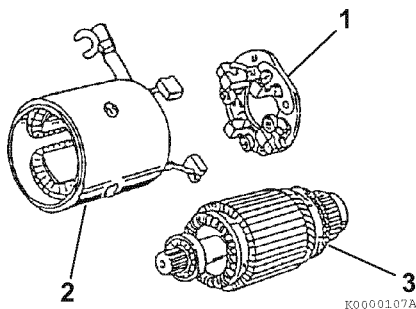

Figure 11-6
5. Remove the brush holder assembly (1, **Figure 11-6**) from the armature assembly (3, **Figure 11-6**).
6. Pull the armature assembly (3, **Figure 11-6**) out from the field coil assembly (2, **Figure 11-6**).